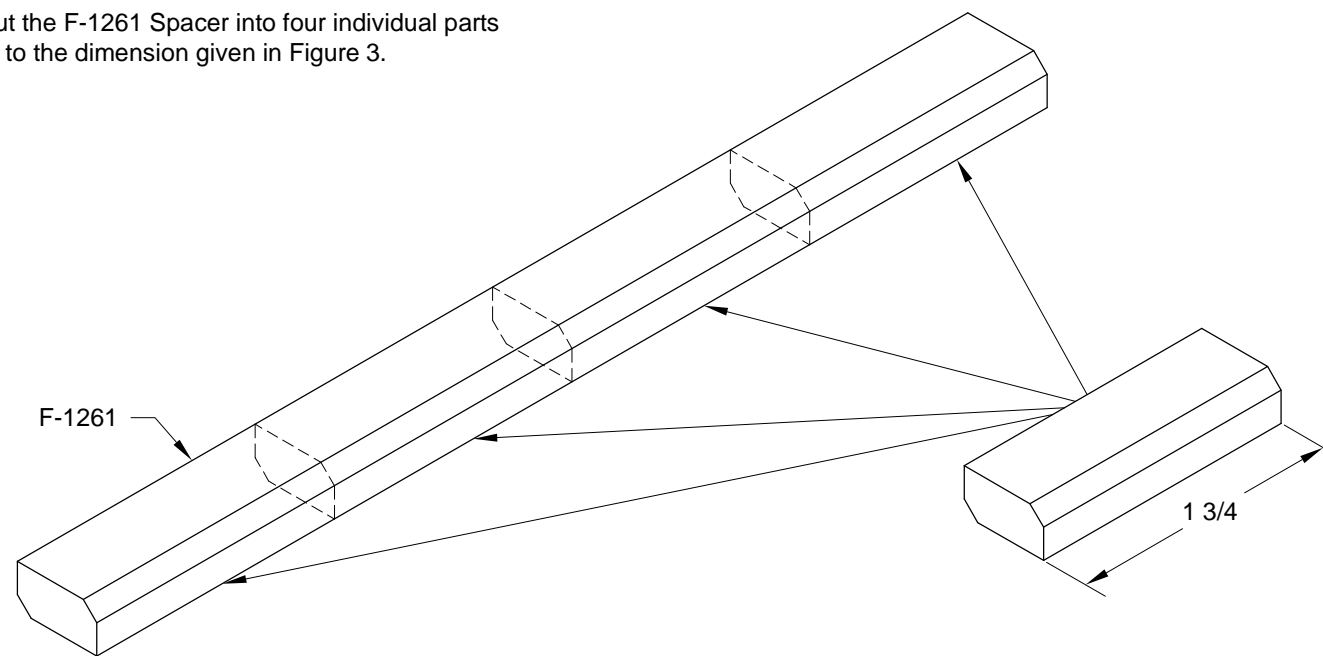

FIGURE 3: CUTTING THE F-1261 SPACER
Step 6: Cut the F-1261 Spacer into four individual parts according to the dimension given in Figure 3.
Step 10: Ensure that the A-1211 Pivot Guides slide freely into the end of the WD-1214-L & -R Flaperon Torque Tubes. See Page 32-09, Figure 3. If some binding is present, first deburr the inside edge of the torque tube then, if necessary, lightly sand the pivot guides until the parts slide together freely.